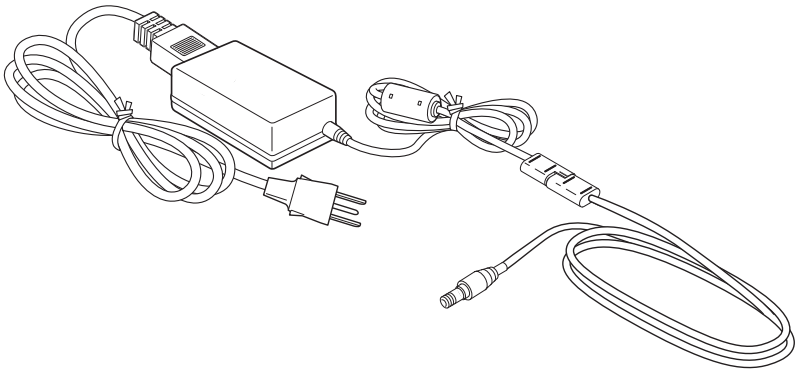

Figure 1-8. Power Supply Unit
The power supply unit (p/n 22-034101-01) charges the internal batteries when connected to a grounded outlet (Figure 1-8). This unit converts the alternating current (AC) normally supplied from an electrical outlet to a direct current (DC) used to charge the batteries and/or power the receiver.